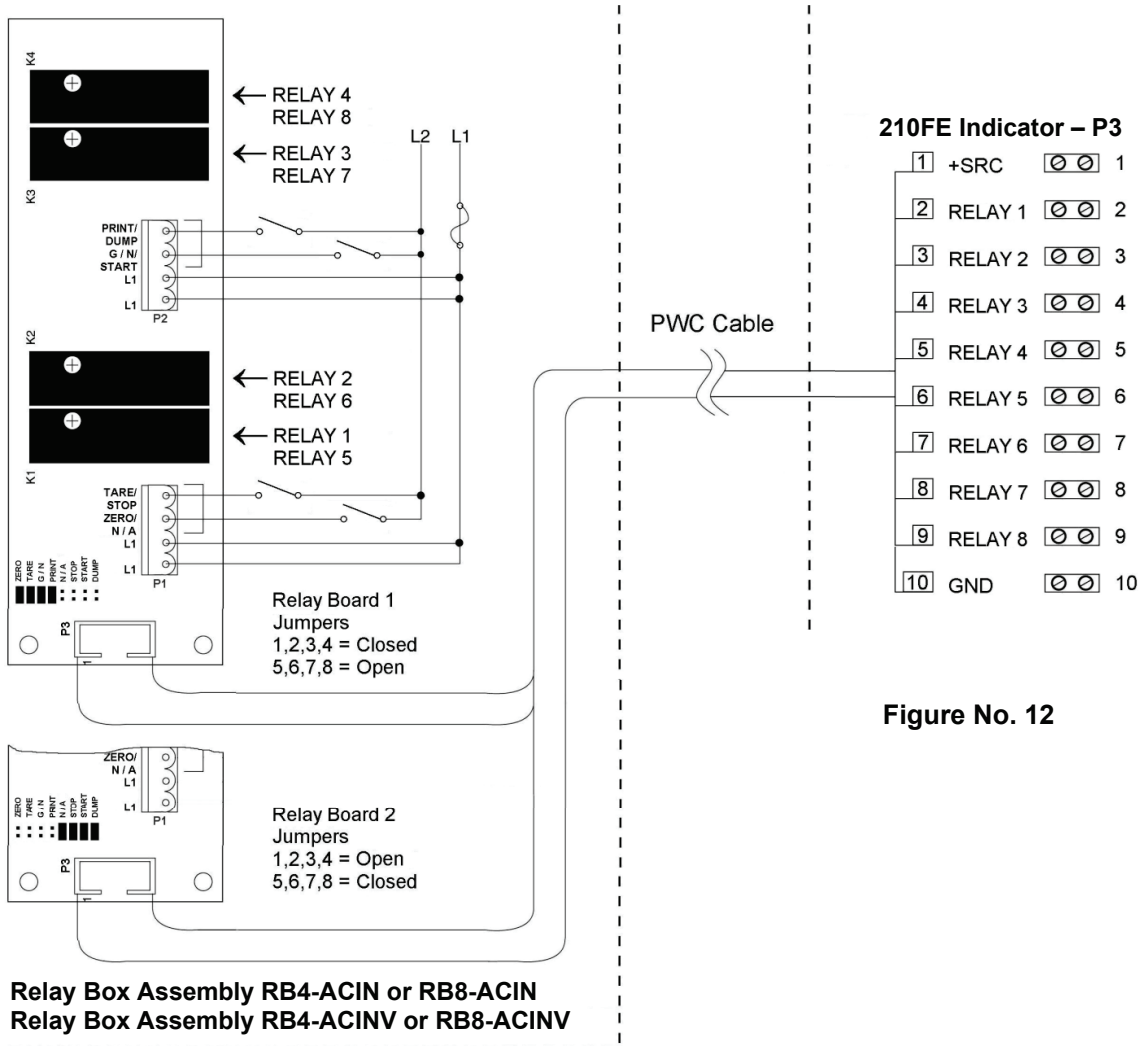
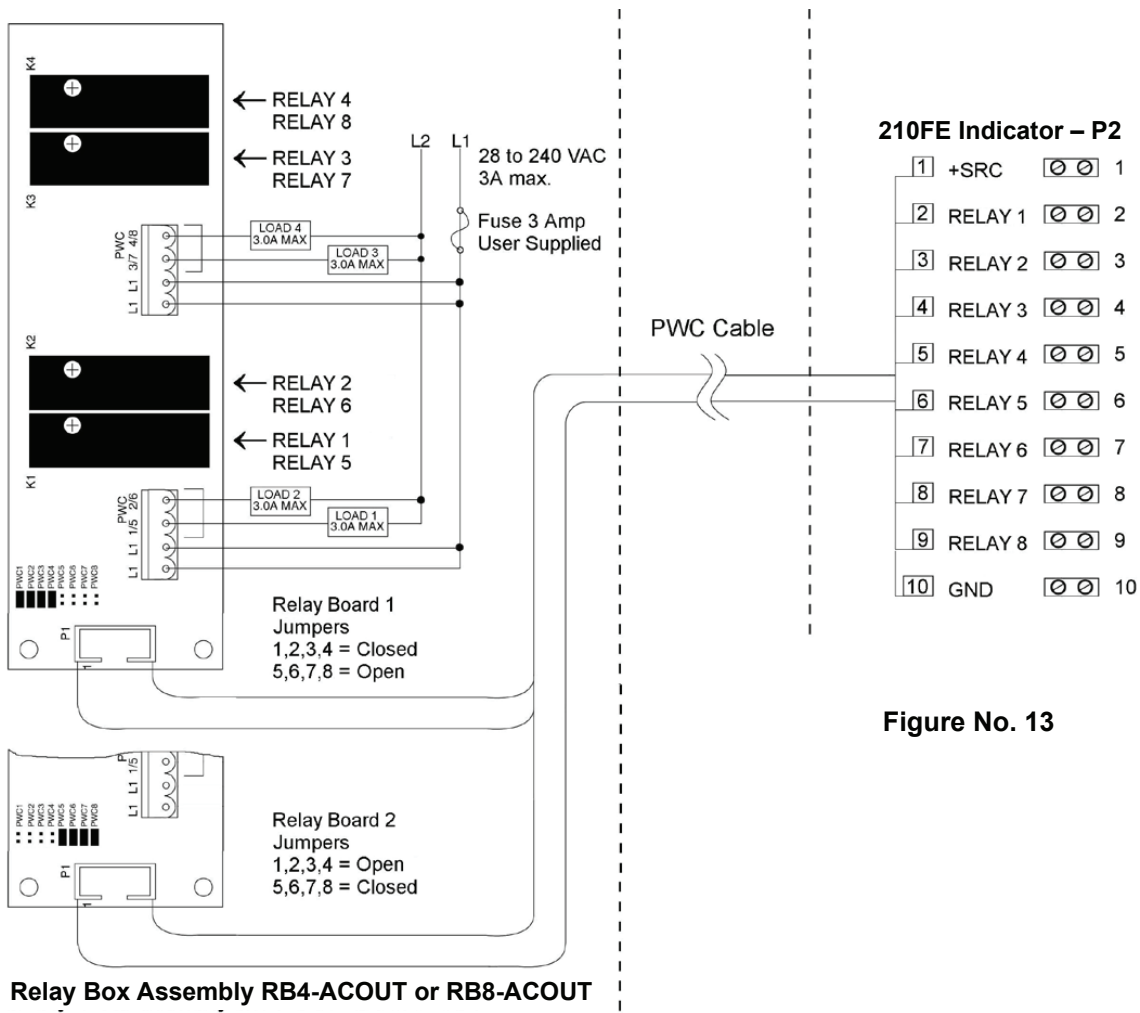
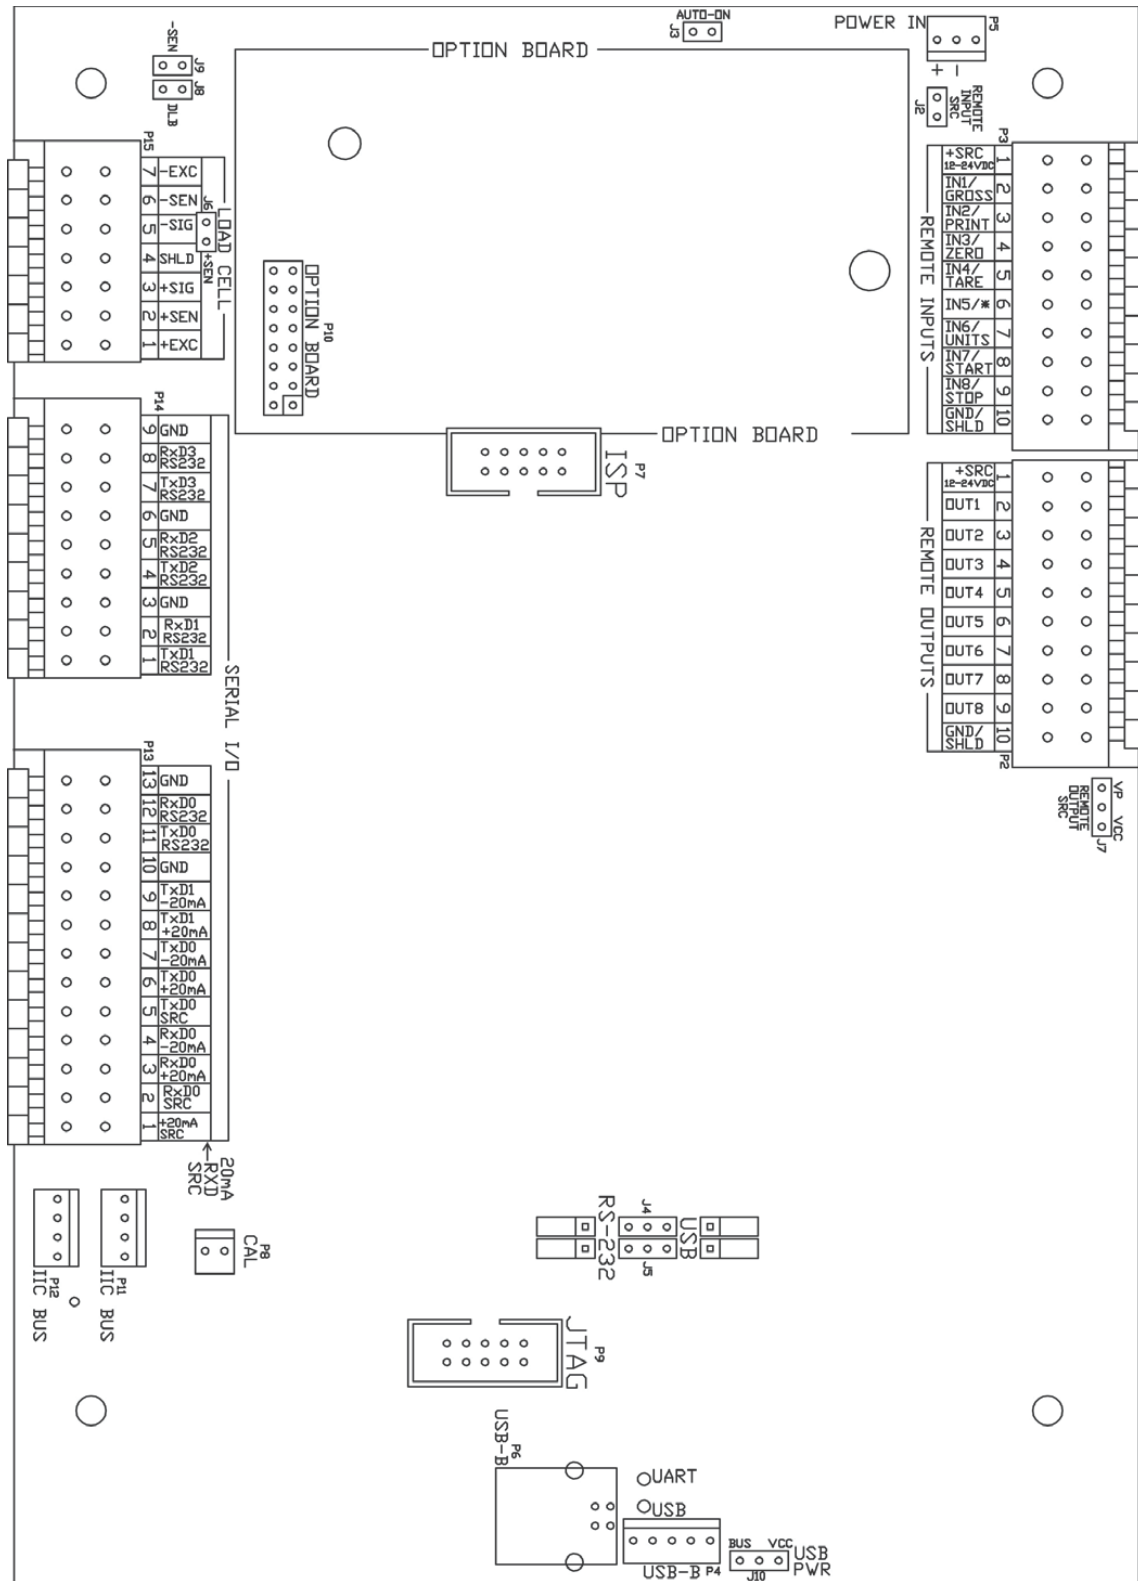

Figure No. 12
Figure No. 13
Figure No. 17
Refer to Figure No. 12 for the AC Input Relay board, Figure No. 13 for the AC Output Relay board, Figure No. 14 for the RB4C Relay board and Figure No. 17 for the Main PCB.
Included with the I/O are 4 programmable inputs that may be used to remotely (up to 100 feet) initiate various functions within the indicator. These inputs are accessed via a terminal block (P3) on the back of the PC board (see Figure No. 17). The 8 inputs are defined as follows:
The AC Input Relay Board(s) are mounted in an external junction box for use with the 210FE Indicator. The RB4-ACIN (115 VAC) or RB4-ACINV (230 VAC) contain one board and supports 4 inputs (jumper selectable). The RB8-ACIN (115 VAC) or RB8-ACINV (230 VAC) contain two boards and supports eight inputs that are jumper selectable. The relay board used in the 115 VAC versions is part number 8200-C324-0A. The 230 VAC version uses relay board part number 8200-C324-1A. Connect the devices as shown in Figure No. 12.
The Remote Output SRC jumper J7, when connected, allows the 210FE indicator to supply (source) VP (15VDC) or VCC (5VDC) to a solid-state relay or other load of 200 ohms or greater. The positive connection from the relays must be connected to the PWC connector pins and the negative wire from the relays to the GND pin. See Figure No. 17 for jumper and REMOTE OUTPUTS connector location.
6. Connect each of the wires to the REMOTE OUTPUTS terminal block (P10) referring to Figure No. 17 for terminal block locations.
The AC Output Relay Boards are mounted in an external junction box for use with the 210FE Indicator and can be purchased from Cardinal. The RB4-ACOUT contains one board and supports four outputs (jumper selectable). The RB8-ACOUT contains two boards and supports eight outputs. The relay board used in both is part number 8539-C062-0A. Connect the devices to be controlled as shown in Figure No. 13.